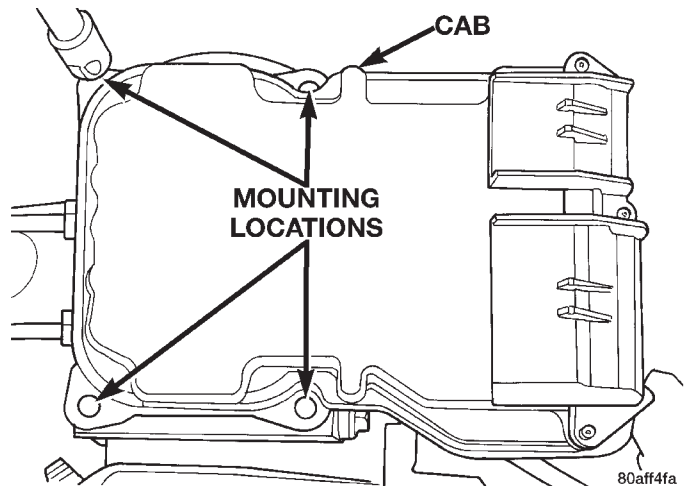

Fig. 5 Controller Mounting Screws
- (4) Remove screws attaching CAB to the HCU (Fig. 5).
- (5) Remove the CAB.